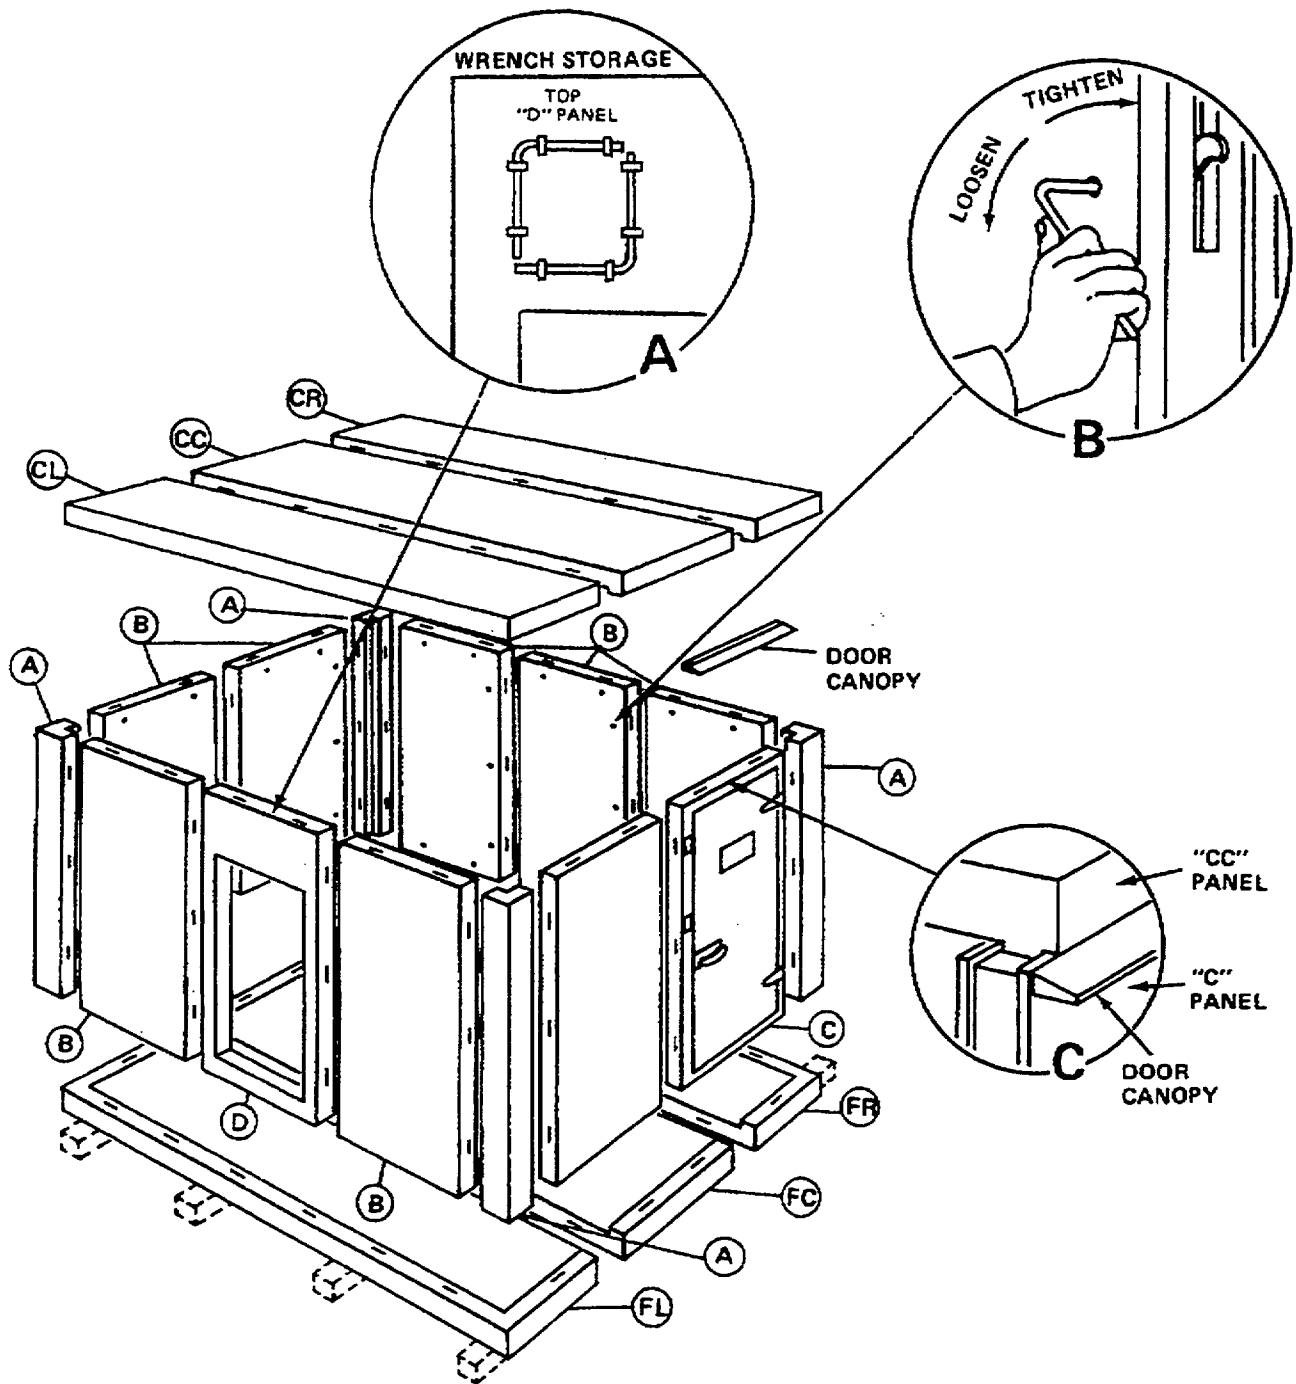

Figure 4-1. Typical Installation of Prefabricated Refrigerator Panel
**A typical installation of a 600 cubic feet unit is shown in figure 4-1. The 1200 and 4000 cubic feet sizes are erected in a similar manner. All wall panels are interchangeable to produce any arrangement of walk-in doors and evaporator panels. Refer to Figure 4-3 for panel schedule.**
- (3) Fasteners. Before placing any panel in position, use the wrench supplied to make certain all clamp assembly hooks are rotated counter-clockwise as far as possible. See figure 4-1 (detail A) and figure 4-2. Panels are locked together by rotating clamp assembly hooks as far as possible.
- (4) Erecting Panels (See figure 4-1.)
- (d) Hang door canopy over top of walk-in door panel "C". (See figure 4-1, detail C.)
- (j) Replace wrenches on to clips in "D" panels (figure 4-1, detail A).
- (1) Install the floor racks in their proper position in the refrigerator.
- (2) Refer to para. 4-24 and install the light as instructed.
- (3) Refer to para. 4-27 and install the thermometer as instructed.